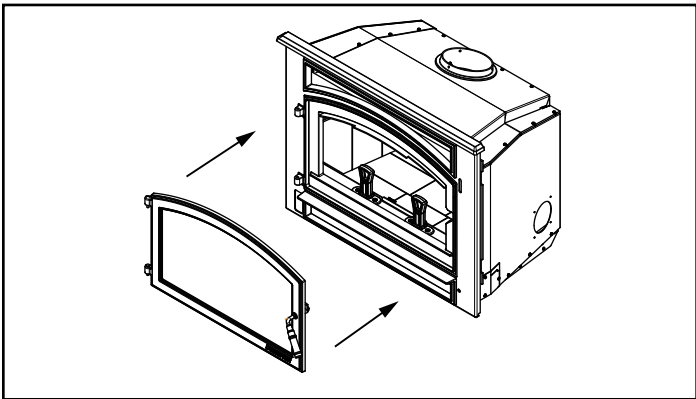

Figure 5.11
6. Reinstall door to face of appliance (**Figure 5.11**).
- 9. Reinstall the door to the face of the appliance (**Figure 5.11**).